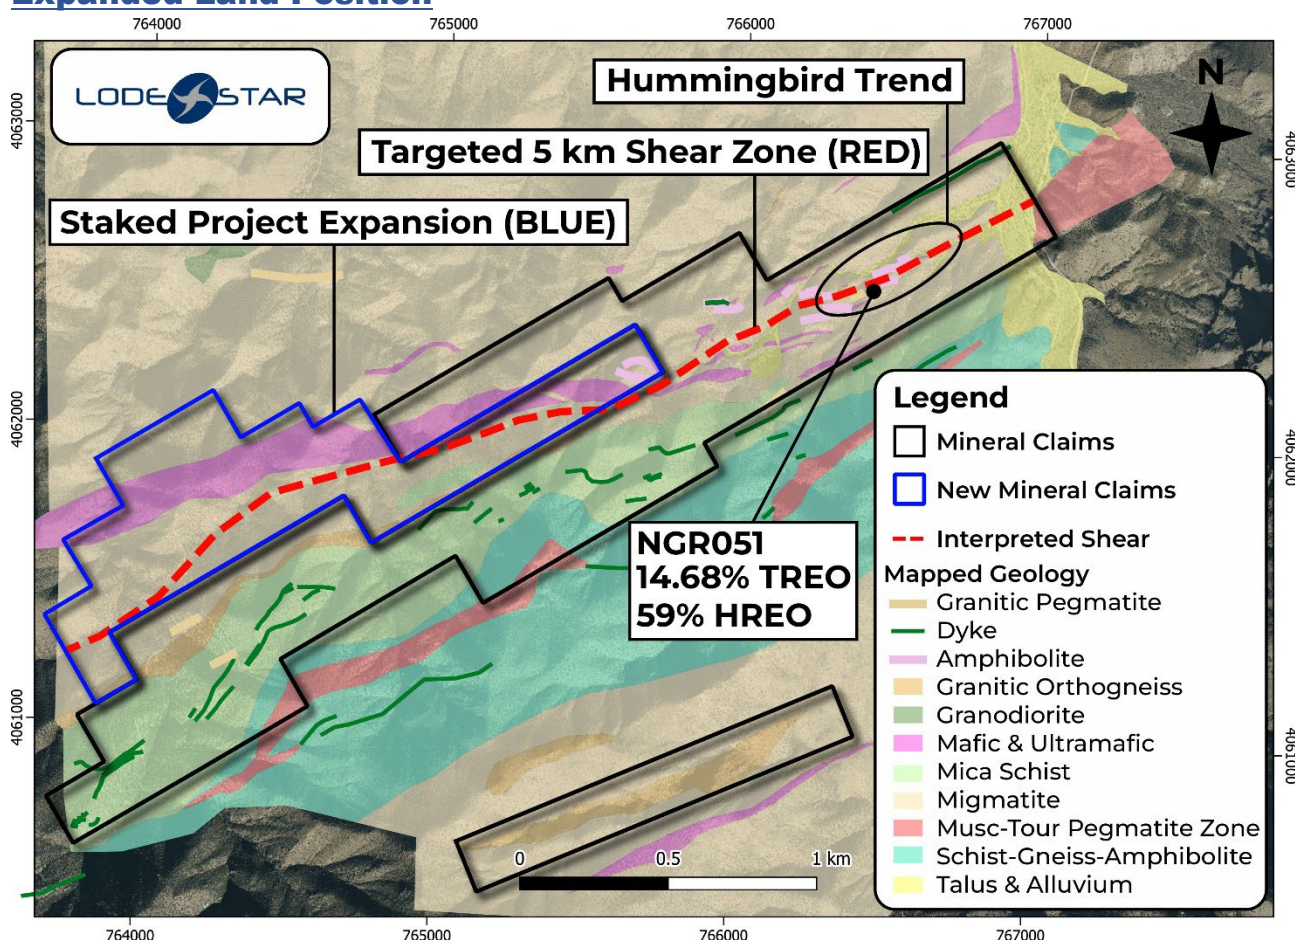

Figure 1: Project-scale view of extended package and the mapped HREE structure at Virgin Mountain
- **High-grade surface mineralisation now extended by 175 metres** from the Hummingbird zone; structure can now be followed continuously at surface from Hummingbird to NGR051 (Fig 1).